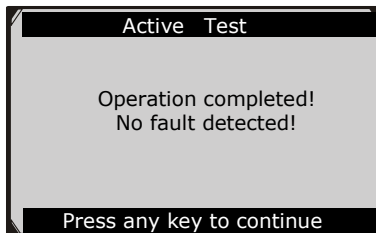

Figure 8.22
- 2) In the **Active Test** menu, use the **UP/DOWN** button to select the desired actuator to begin the test. If the selected actuator works correctly, the tool will display a confirmation message as below (Figure 8.22). Otherwise, it will display a message to remind you of the problem. After you exit the diagnostic program, please repair the problem immediately.